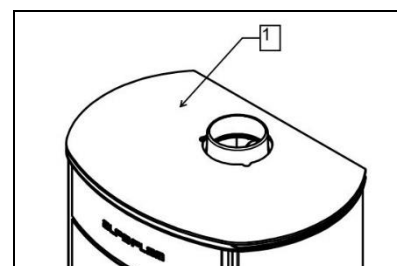

Figure 5a
- Lift the top plate assembly (Figure 5a, item 1).